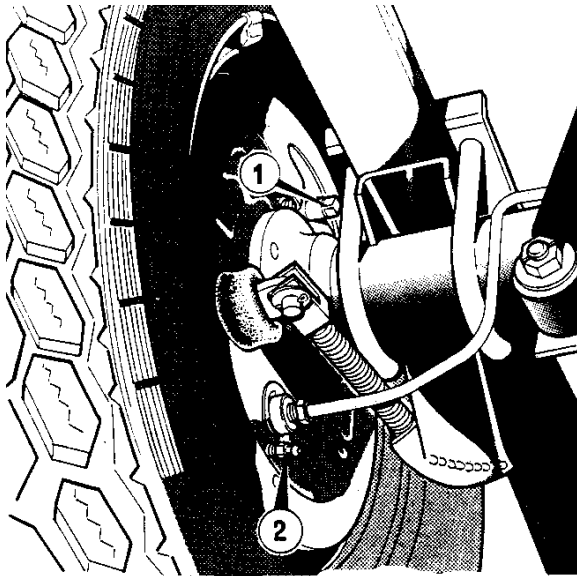

Figure 2 Rear wheel adjuster and bleed screw
Release the handbrake and whilst rotating the wheel, turn the adjuster (Figure 2) clockwise until the shoes touch the drum. Continue "one click" at a time until the drum is locked. Slacken the adjuster "two clicks" when the wheel should rotate freely. repeat with the other wheel.
1. Locate the bleed nipple on the nearside rear wheel brake back plate (**Figure 2**). Remove the dust cover and fit the rubber tube over the nipple. Immerse the other end of the tube in the brake fluid in the glass jar.